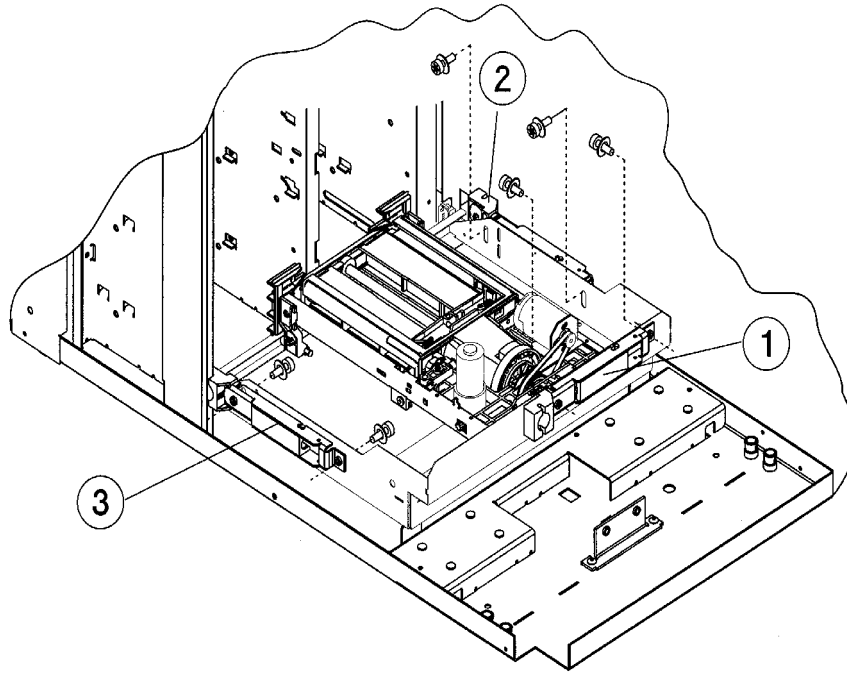

Figure 71: Removing the Tensioners From the Translate Frame
8. Remove the three rope tensioners from the frame (#1, #2, and #3 on Figure 71).
- a. Remove two T-25 long screws per tensioner. Start with the tensioner at the rear end of the frame (#1 on Figure 71).